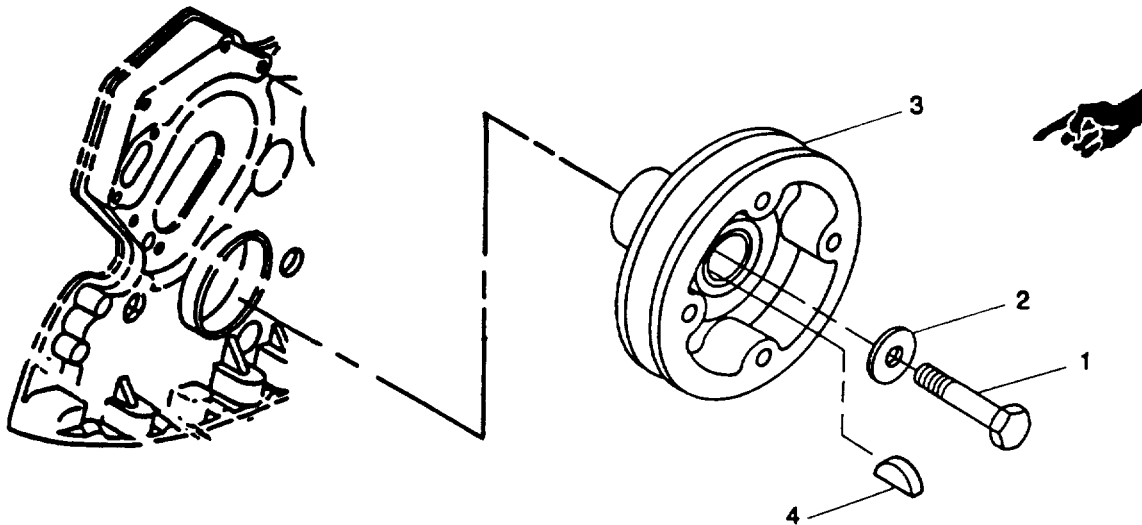

FIGURE 3-106. Crankshaft Pulley
- c. Remove capscrew (1, FIGURE 3-106) and washer (2) securing crankshaft pulley (3).
- d. Using suitable puller, remove pulley (3) from crankshaft. Remove key (4).
- a. Install key (4, FIGURE 3-106) in crankshaft.
- b. Install crankshaft pulley (3) on crankshaft and secure with capscrew (1) and washer (2). Tighten capscrew to 110 ft-lbs (150 Nm)